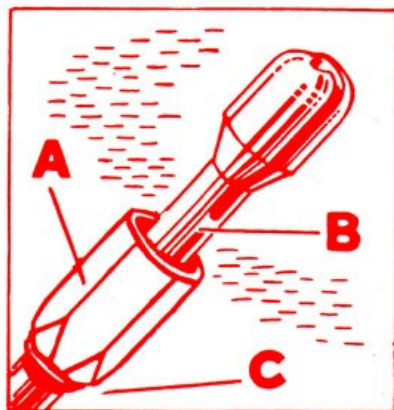

FIG. 1
1. Slip the threaded collar (a) back down the shank (b) to retaining ring (c) Fig. 1.